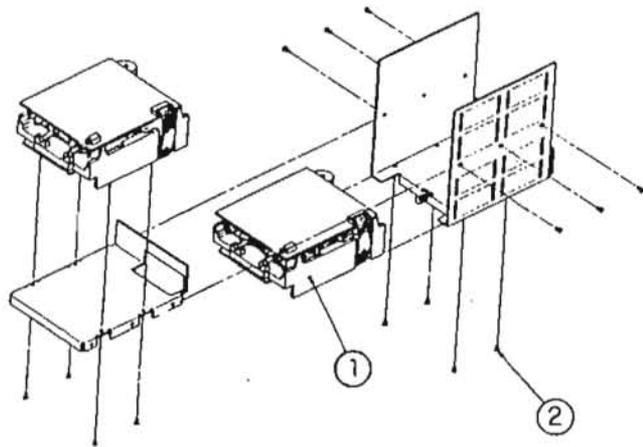

Figure 5
**LISA 1.0 DISK DRIVE ASSEMBLY (Figure 5)**